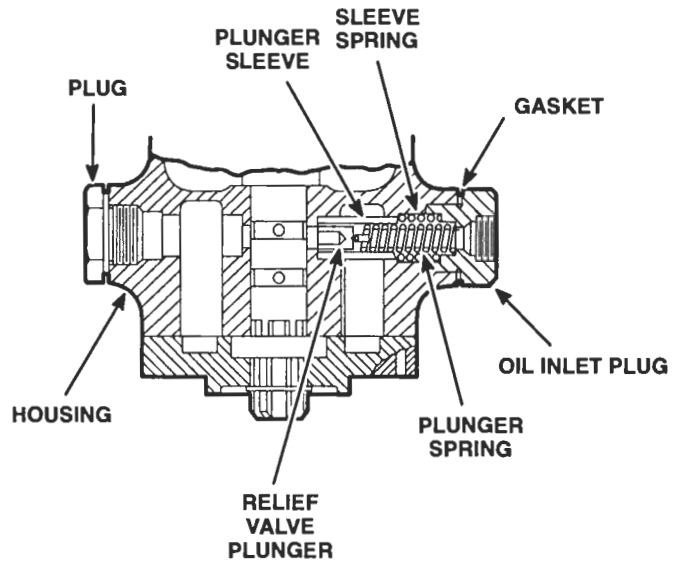

Figure 14. Location of Relief Valve Plunger, Plunger Sleeve, Springs, Oil Inlet Plug and Dummy Plug in Governor
8. Install the relief valve plunger (Figure 14.), plunger sleeve, plunger retaining spring, sleeve retaining spring, oil inlet plug and dummy plug in the governor housing as follows: